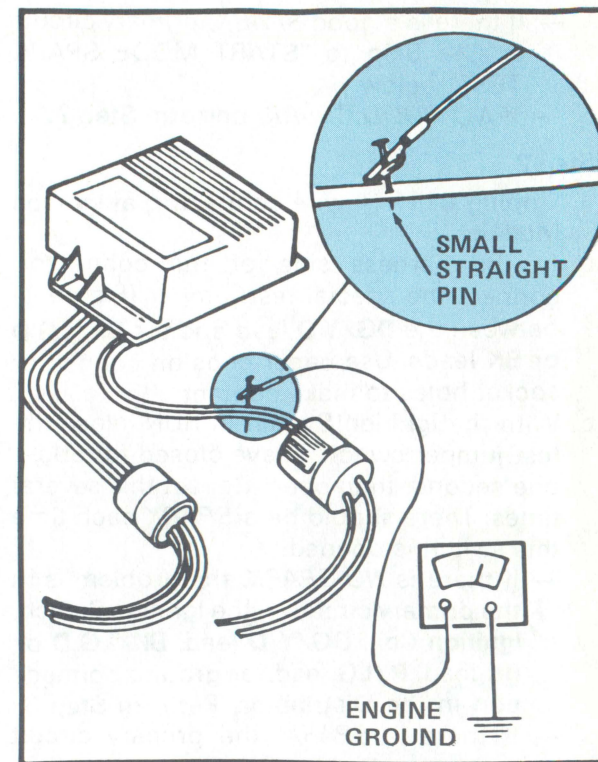

Figure 3 — Pin Test
- The **R** lead of the **Ignition Module**. Use a straight pin to pierce the insulation of the lead and connect voltmeter to pin (Figure 3).
- Measure **Battery** voltage, and voltage at **W** wire of the module while cranking engine. Use a straight pin to pierce the wire (Figure 3).